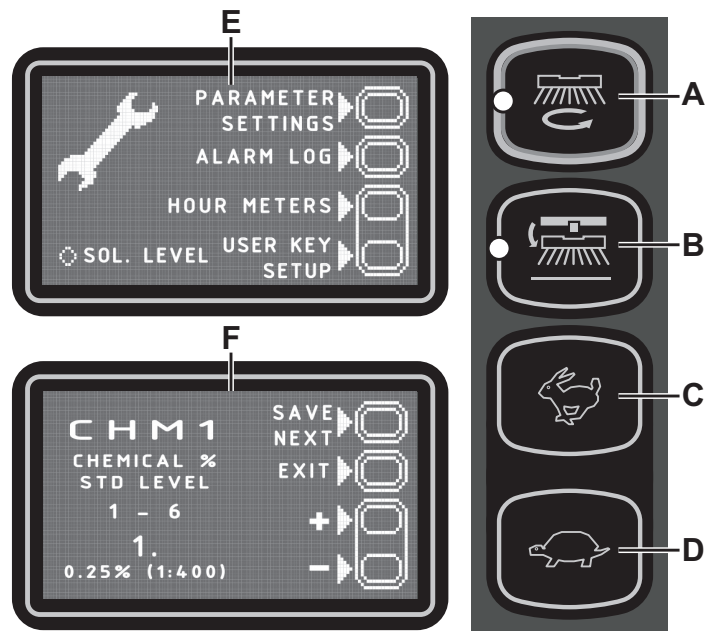

Figure 8
Main Screen (E, Fig. 8)
Machine Settings Screen (F, Fig. 8)
This function allows you to check for any stored alarms on the machine. Use this function only with support from a Nilfisk Service Centre to solve any operating problems. To return to the main screen (E, Fig. 8), press push-button (A) repeatedly.
To return to the main screen (E, Fig. 8), press push-button (A).